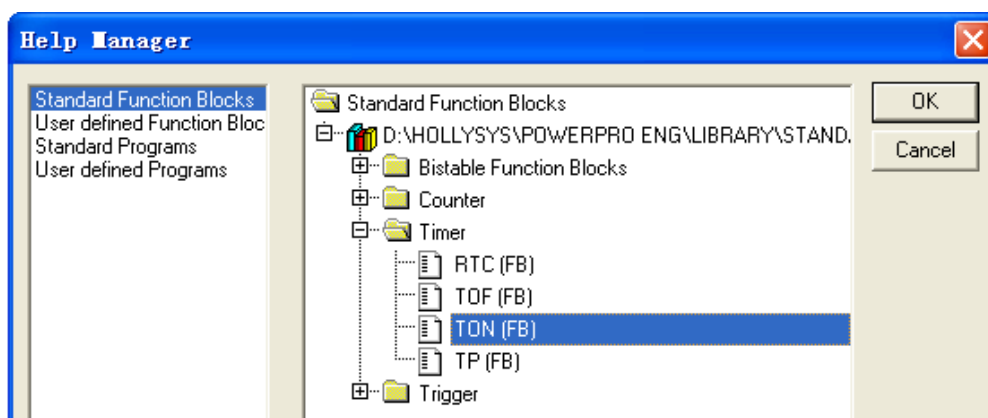

Figure 3-6-4 Programming Step (4)
- Click on “Function block”, a dialog will appear as shown in figure 3-6-4, then select “TON (FB)”, a command of timer connecting in power delay.